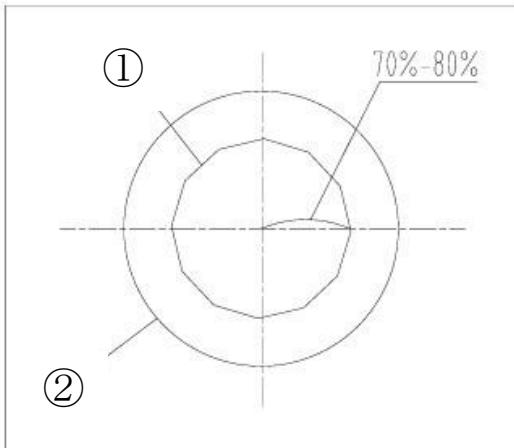

**Fig. 14**
If the handle is very heavy when focusing or the specimen leaves the focus plane after focusing or the stage lowers by itself, please adjust the tension adjustment ring ①. Located on the left side of the stand between the coarse adjustment knob and the vertical arm is an adjustable tension control dial that is preset at our facility. This allows the user to adjust the coarse control tension to their individual preference. (Fig. 14).